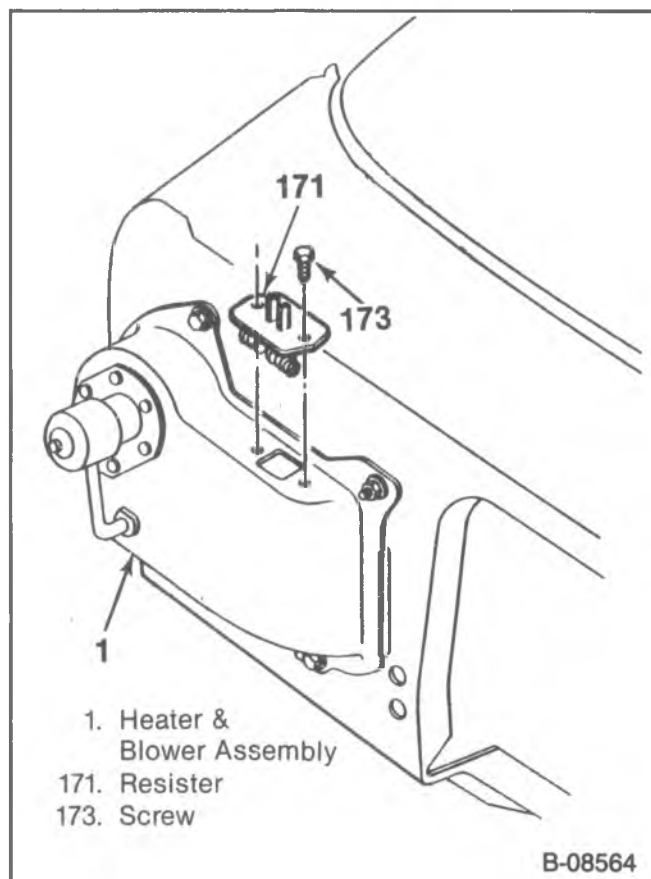

Figure 25—Resistor Replacement
↔ Remove or Disconnect (Figure 25)
2. Wiring harness from the resistor (171) (figure 25).
3. Screws (173).
4. Resistor (171).
→← Install or Connect (Figure 25)